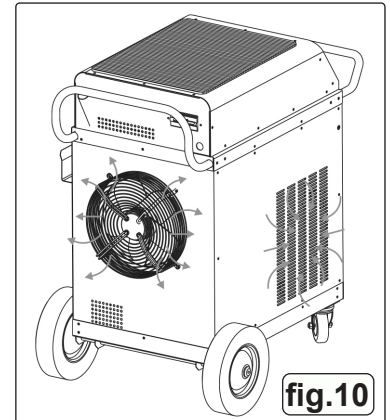

fig.10
- Ensure cooling vents and airflow paths (on both sides and underneath the unit) are not obstructed. See fig.10